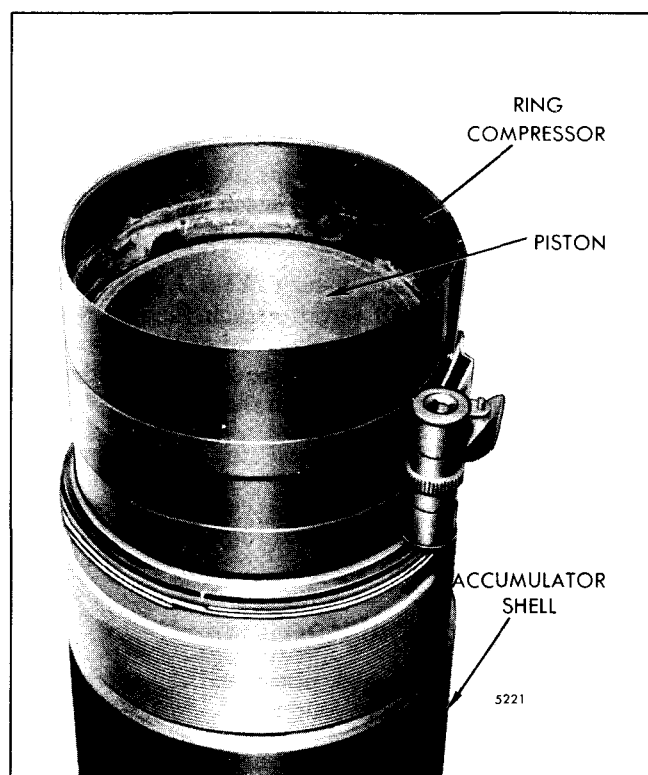

Fig. 22 - Installing Piston in Accumulator Shell
4. Install the ring compressor on the piston and rings and place the entire assembly on the open end of the shell (Fig. 22). Lubricate the inner surface of the ring compressor and the beginning inner region of the shell with engine oil to reduce friction between the piston and the shell.